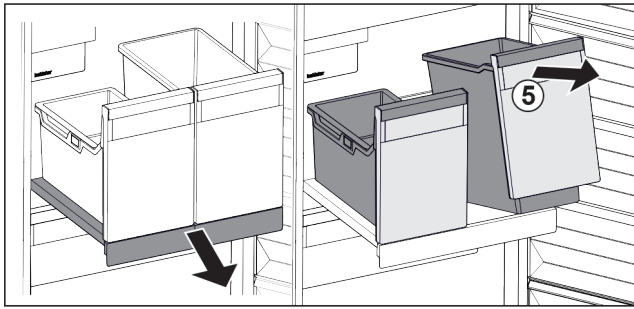

Fig. 26
- ▶ Lift the container Fig. 26 (5) at the front.